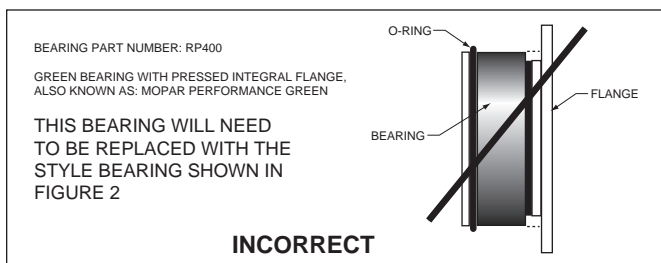
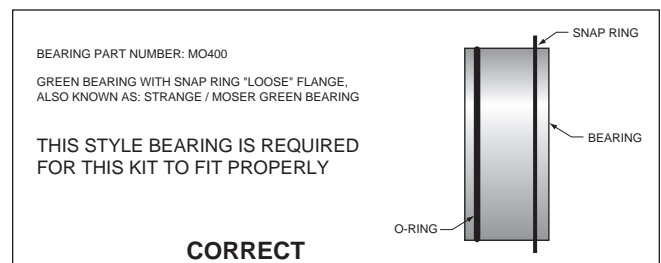
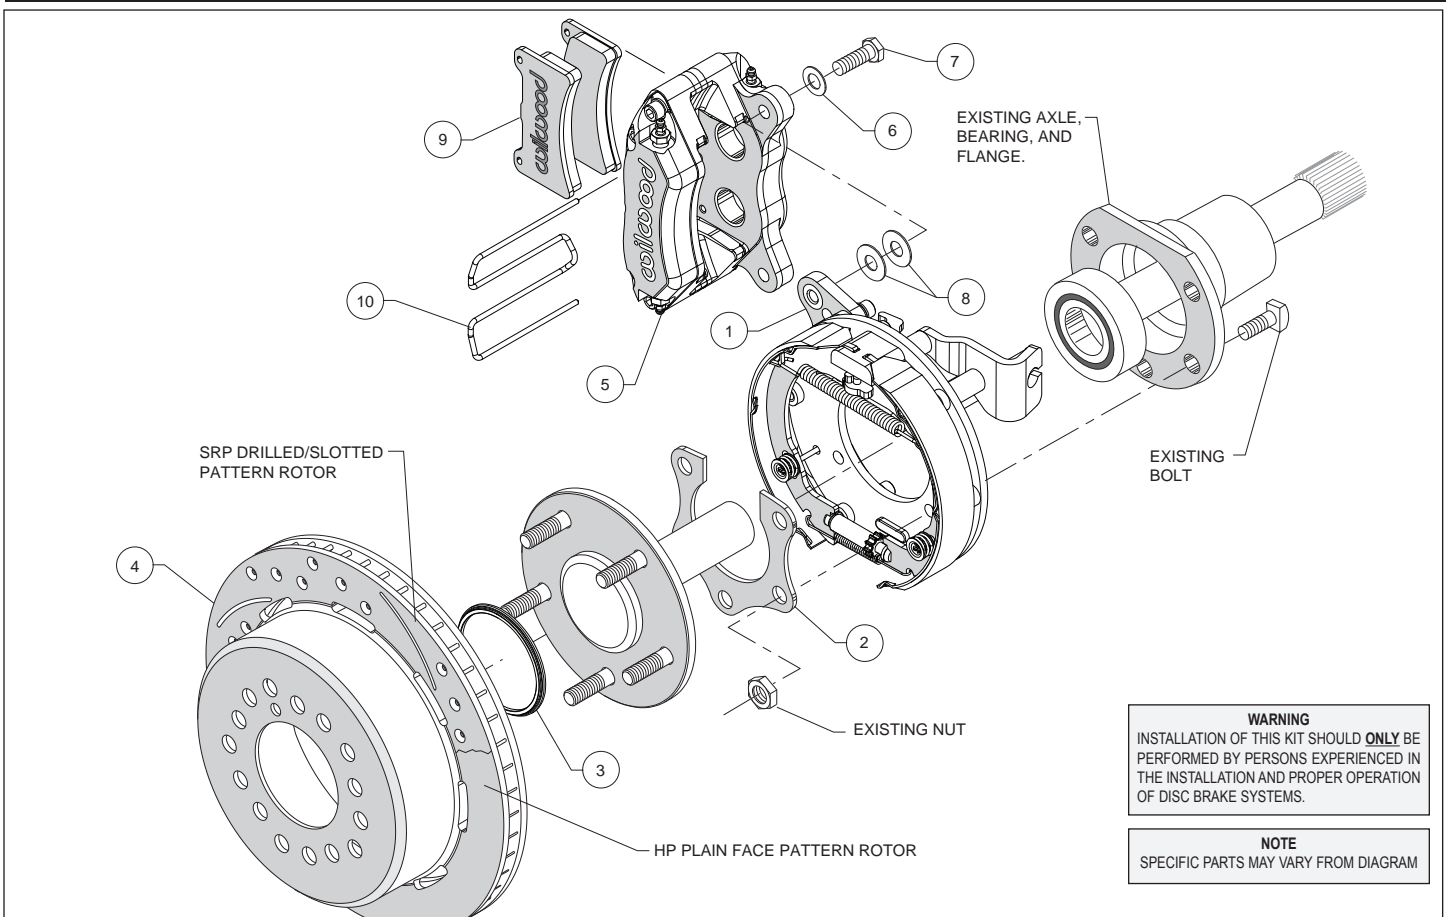
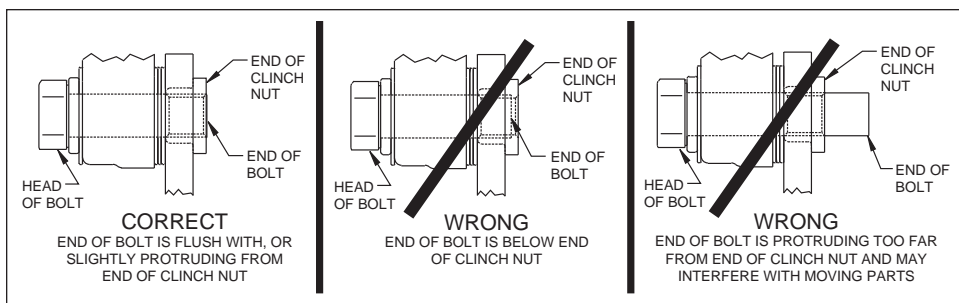

Figure 1. Press Fit Bearing Configuration
Figure 2. Loose Fit Bearing Configuration
Figure 3. Typical Installation Configuration
Figure 7. Clinch Nut Engagement Diagram
- There are two types of “Green Bearings” being supplied by axle manufacturers. Your setup should look like Figure 2 (below right), not the Figure 1 configuration, otherwise this kit will not fit.
Assembly Instructions (numbers in parenthesis refer to the parts list, and Figure 3 on the preceding pages): **CAUTION:** All mounting bolts must fully engage clinch nuts. Be sure to check that all bolts are either flush or protruding through flanged side of clinch nut after shimming, Figure 7.
- Determine that the appropriate snap ring style green bearing has been installed on the axle, as shown in Figure 2. Temporarily remove snap ring from bearing. Orient the bracket assembly (1) as shown in Figure 3 and Photo 1 and slide it onto the axle and over the bearing. Reinstall snap ring on bearing. Insert the axle and bracket into the axle housing. Ensure that the bracket assembly backing plate fits flush against the axle housing flange.
- Install the bearing retainer (2) with the opening pointing upward and the bearing relief step facing inward (toward the bearing), as shown in Figures 3 and 6. Secure retainer and bracket assembly to the axle housing flange using the Original Equipment Manufacturer (OEM) bolts and nuts, Figure 3. Apply red *Loctite*® 271 to the OEM bolt threads and torque to OEM specifications.
•Slide the rotor registration adapter (3) onto the axle register on the axle flange with the smaller O.D. facing toward the rotor/hat (4), Photo 2. Align the correct hole pattern in the rotor/hat with the stud pattern on the axle flange and slide into place, Figure 3 and Photo 3. **NOTE:** The rotor/hat must fit flush against the axle flange or excessive rotor run out may result. Install three lug nuts (finger tight) to keep the rotor/hat assembly in place while continuing with the installation. **NOTE:** Some OEM and after market axles come with stud sizes larger than 0.50" diameter. Verify stud size and have a qualified machine shop drill the bolt circle of the hat/rotor to the correct stud size, if necessary.
•**NOTE:** Please reference the caution statement at the beginning of the assembly instructions. Mount the caliper (5) onto the caliper mounting bracket (1) using bolts (7) and washers (6), as shown in Figure 3. Initially place two .035" thick shims (8) on each bolt between the caliper and the bracket, Photo 4. Temporarily tighten the mounting bolts and view the rotor (4) through the top opening of the caliper. The rotor should be centered in the caliper, Photo 5. If not, adjust by adding or subtracting shims between the bracket and the caliper. Always use the same amount of shims on each of the two mounting bolts. **NOTE:** The end of each bolt must be flush with or slightly protruding from the head of the clinch nut, as shown in Figure 7. If necessary place spare shims between washer (6) and caliper mounting ear to achieve the proper clinch nut engagement. Once the caliper alignment and clinch nut engagement are correct, remove the bolts one at a time, apply red *Loctite*® 271 to bolt threads, and torque to 40 ft-lb.